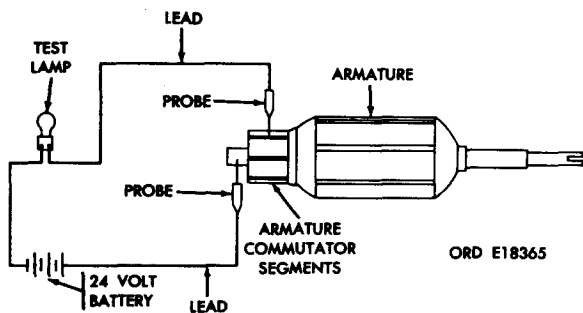

FIGURE 438. TESTING ARMATURE FOR GROUNDS USING TEST LAMP.
- (1) Test armature for grounds. Test the armature (UU) for grounds as shown in figure 438. Use a 24-volt dc test lamp and contact one lead to end of armature shaft. Touch each commutator bar in turn with the other lead. When test lamp lights, as one individual bar is connected, a short circuit exists in the armature insulation between armature shaft and commutator bar. Replace armature when bars are short-circuited.